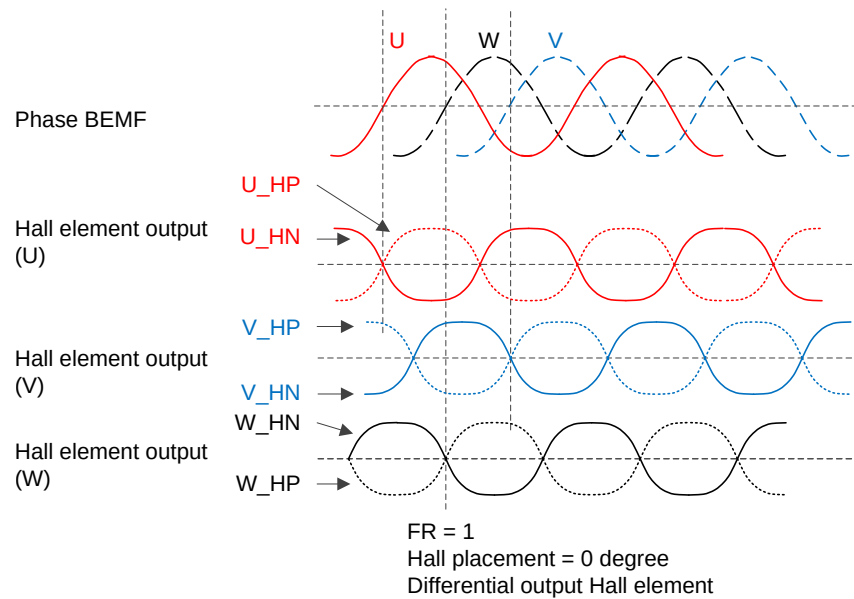
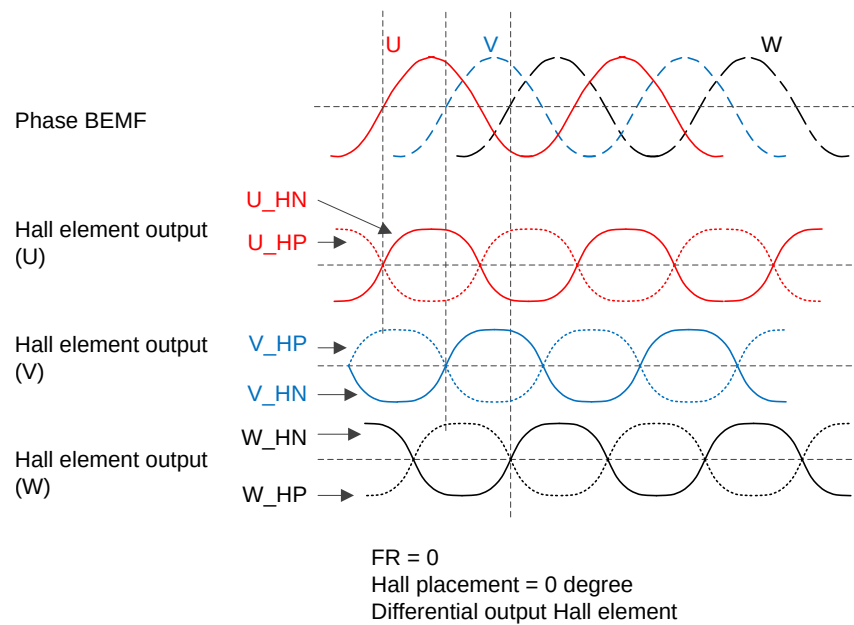
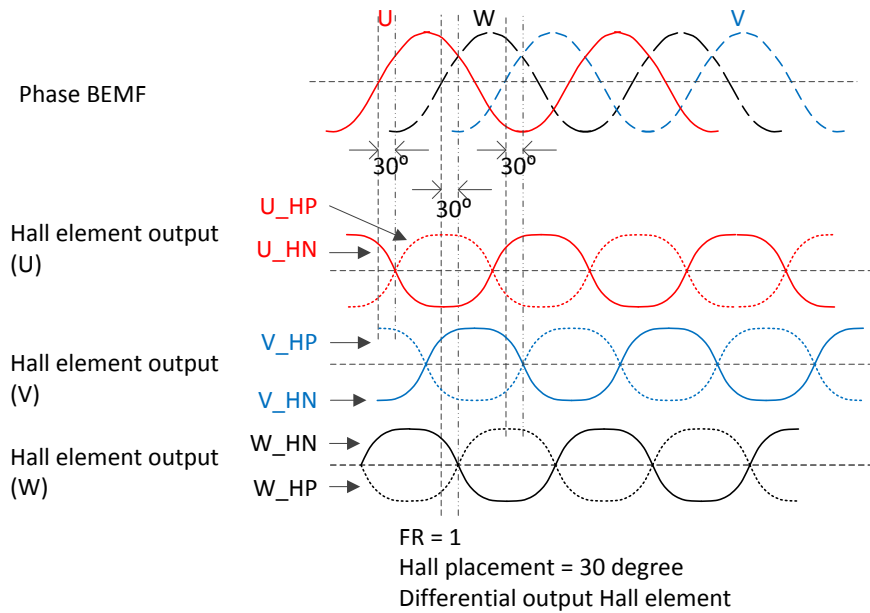
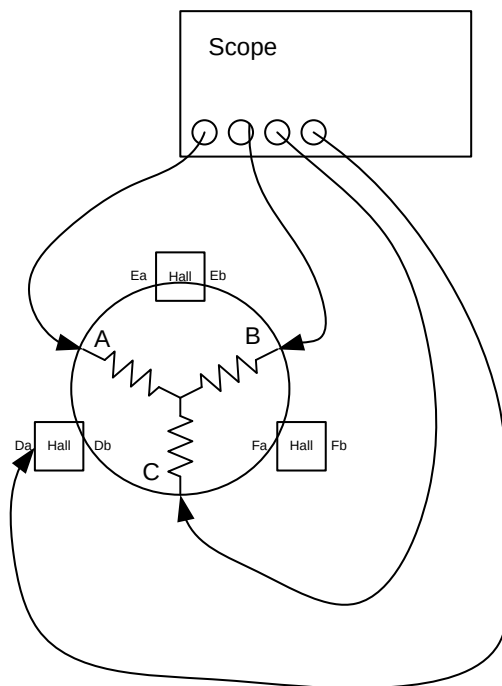

Figure 24. Correspondence Between Motor BEMF and Hall Signal (FR = 1, 0° Placement)
Figure 25. Correspondence Between Motor BEMF and Hall Signal (FR = 0, 0° Placement)
Figure 26. Correspondence Between Motor BEMF and Hall Signal (FR = 1, 30° Placement)
Figure 30. Motor Measurement
1. Phase U is leading phase W by 120°, phase W is leading phase V by 120°. The Hall signal positive output is aligned with respective phase BEMF. Choose FR = 1 and 0° placement option (see Figure 24).
2. Phase U is leading phase V by 120°, phase V is leading phase W by 120°. The Hall signal positive output is aligned with respective phase BEMF in the opposite direction. Choose FR = 0 and 0° placement option (see Figure 25).
3. Phase U is leading phase W by 120°, phase W is leading phase V by 120°. The Hall signal positive output is 30° lagging of respective phase BEMF. Choose FR = 1 and 30° placement option (see Figure 26).
5. Use 4 channel Scope to observe signals. Connect probe -1, 2, 3 to A, B, C terminals of the motor (phases), probe-4 connects to Hall Da (or D). Name the probe 1 (terminal-A) as U-phase. (see Figure 30)
6. Turn the rotor manually in clock-wise direction. If the waveform on probe-1 (U-phase) is leading probe-2 (terminal-B) by 120° , name the terminal-B as phase W and terminal-C as phase V. Else if waveform on the probe-2 is leading probe 1 (U) by 120° , terminal-B as V, terminal-C as W. At this stage all three phases of the motor are identified.
9. After phase UVW and Hall UVW positive negative are identified, manually rotate the motor again, check if the result matches Figure 24 and Figure 25 (0° placement) or Figure 26 and Figure 25 (30° placement).